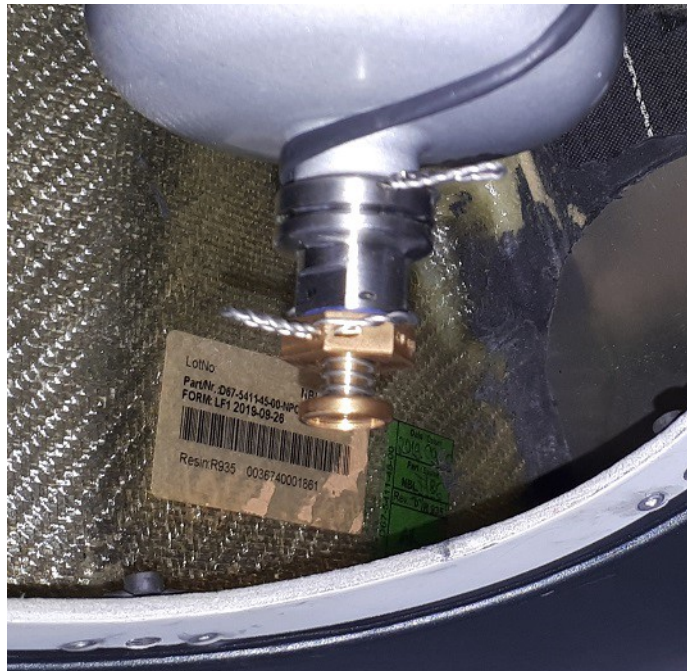

Figure 1. Fuel filter installation showing drain valve and drain adapter.
4. Cut the upper lockwire. Refer to Figure 1.